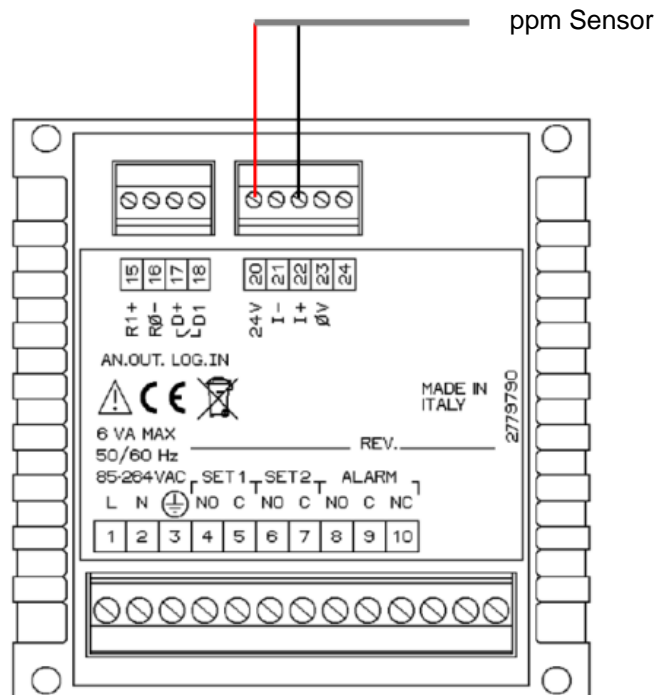

Figure 2: Sensor Wiring
- Connect the positive of the transmitter to the terminal 22 marked I+ (See Fig. 2).
- Connect the positive of the transmitter output to the terminal 20 marked 24V (See Fig. 2).